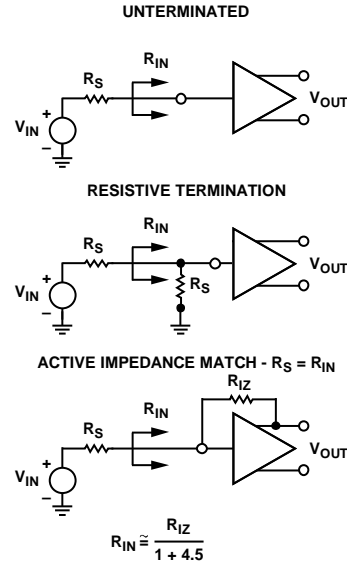
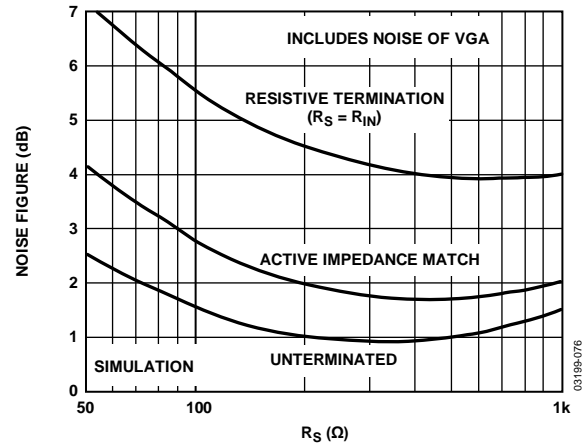
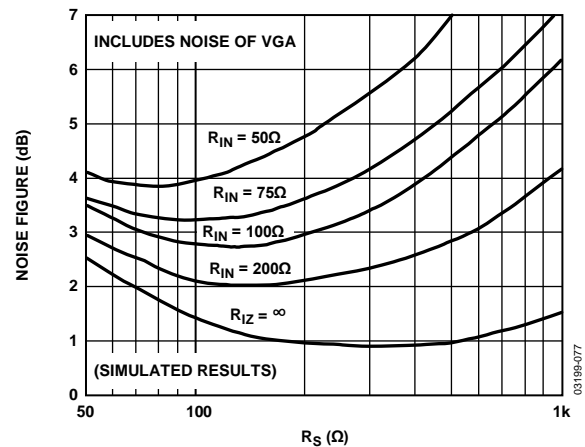

Figure 75. Input Configurations
Figure 76. Noise Figure vs. R_S for Resistive, Active Match, and Unterminated Inputs
Figure 77. Noise Figure vs. R_S for Various Fixed Values of R_{IN} , Actively Matched
The input-referred voltage noise sets an important limit on system performance. The short-circuit input voltage noise of the LNA is 0.74 nV/ $\sqrt{\text{Hz}}$ or 0.82 nV/ $\sqrt{\text{Hz}}$ (at maximum gain), including the VGA noise. The open circuit, current noise is 2.5 pA/ $\sqrt{\text{Hz}}$. These measurements, taken without a feedback resistor, provide the basis for calculating the input noise and noise figure performance of the configurations in Figure 75. Figure 76 and Figure 77 show simulations extracted from these results and the 4.1 dB noise figure (NF) measurement with the input actively matched to a 50 Ω source. Unterminated ($R_{IZ} = \infty$) operation exhibits the lowest equivalent input noise and noise figure. Figure 76 shows the noise figure vs. source resistance, rising at low R_S , where the LNA voltage noise is large compared to the source noise, and again at high R_S due to current noise. The VGA input-referred voltage noise of 2.7 nV/ $\sqrt{\text{Hz}}$ is included in all of the curves.
The primary purpose of input impedance matching is to improve the system transient response. With resistive termination, the input noise increases due to the thermal noise of the matching resistor and the increased contribution of the LNA input voltage noise generator. With active impedance matching, however, the contributions of both are smaller than they would be for resistive termination by a factor of $1/(1 + \text{LNA Gain})$. Figure 76 shows their relative NF performance. In this graph, the input impedance is swept with R_S to preserve the match at each point. The noise figures for a source impedance of $50\ \Omega$ are 7.1 dB, 4.1 dB, and 2.5 dB, respectively, for the resistive, active, and unterminated configurations. The noise figures for $200\ \Omega$ are 4.6 dB, 2.0 dB, and 1.0 dB, respectively.
Figure 77 is a plot of NF vs. R_S for various values of R_{IN} , which is helpful for design purposes. The plateau in the NF for actively matched inputs mitigates source impedance variations. For comparison purposes, a preamp with a gain of 19 dB and noise spectral density of $1.0\ \text{nV}/\sqrt{\text{Hz}}$, combined with a VGA with $3.75\ \text{nV}/\sqrt{\text{Hz}}$, yields a noise figure degradation of approximately 1.5 dB (for most input impedances), significantly worse than the AD8331/AD8332/AD8334 performance.